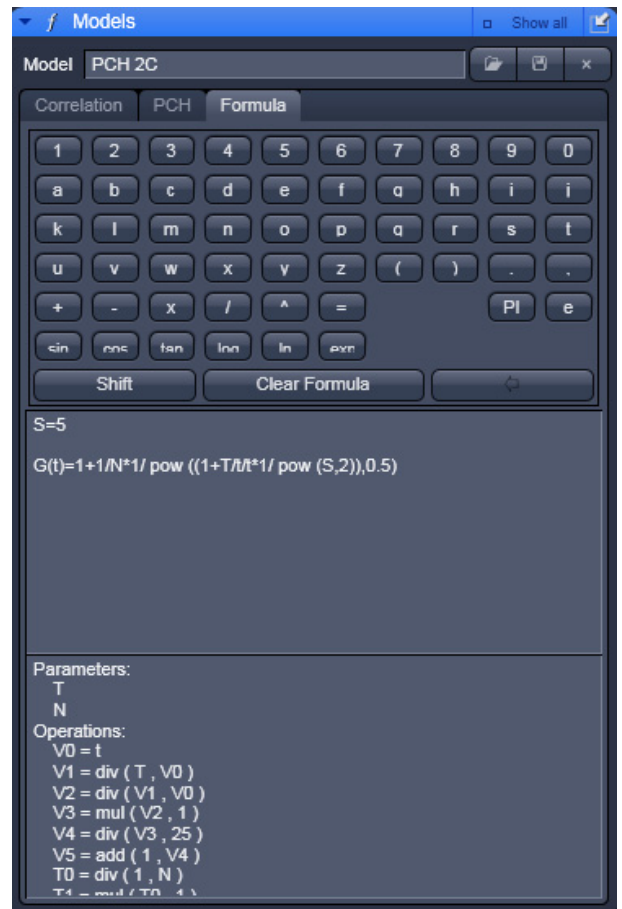

Fig. 73 Model panel, Formula tab
- Press the **Formula** register to open the Formula panel (Fig. 73). Click any other register to leave the panel.